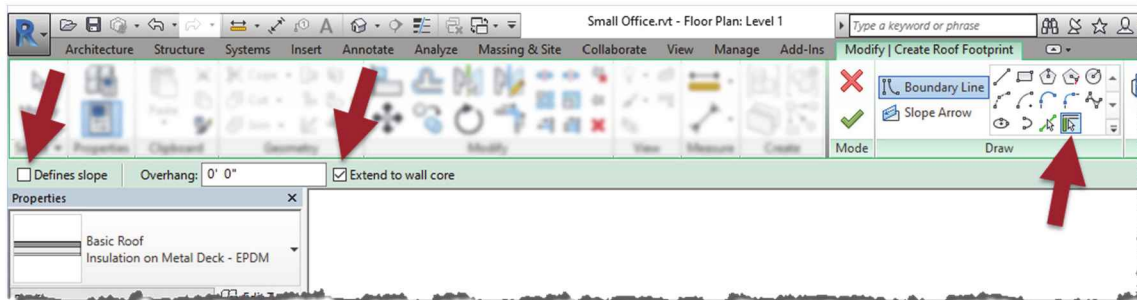

FIGURE 2-4.4 Roof sketch tools
Also notice the *Ribbon*, *Options Bar* and *Properties Palette* have temporarily been replaced with Sketch options relative to the roof (Figure 2-4.4).
8. Click **Extend to Core** on the *Options Bar*; and make sure **Defines Slope** is not checked (Figure 2-4.4).